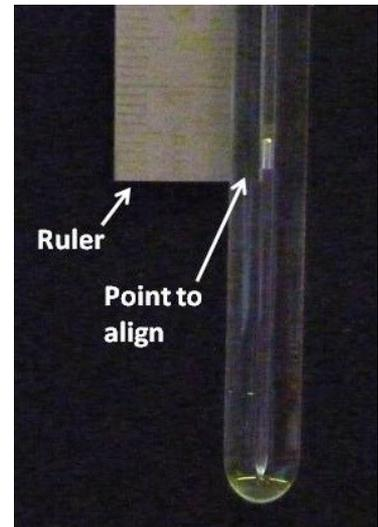

Fig 11.: Thermomètre à gaz
**Gas thermometer:** As was already explained, we want to change the gas' pressure in order to keep a constant volume after the temperature variation. Place the whole gas (i.e. end of the tube + ruler, see fig. 11) in a graduated cylinder filled with water, and adjust the pressure in order to bring the drop of mercury back to its starting point (ideally, the bottom of the ruler). Then, measure the temperature of the gas.